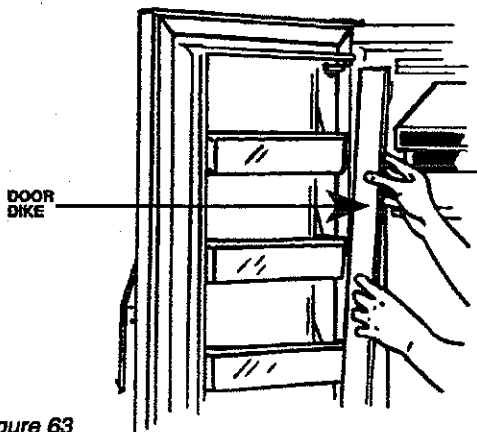

Figure 63
- Replace door dike by aligning four push clips on dike with holes on freezer door. Push gently until dike snaps into place. See Figure 63.